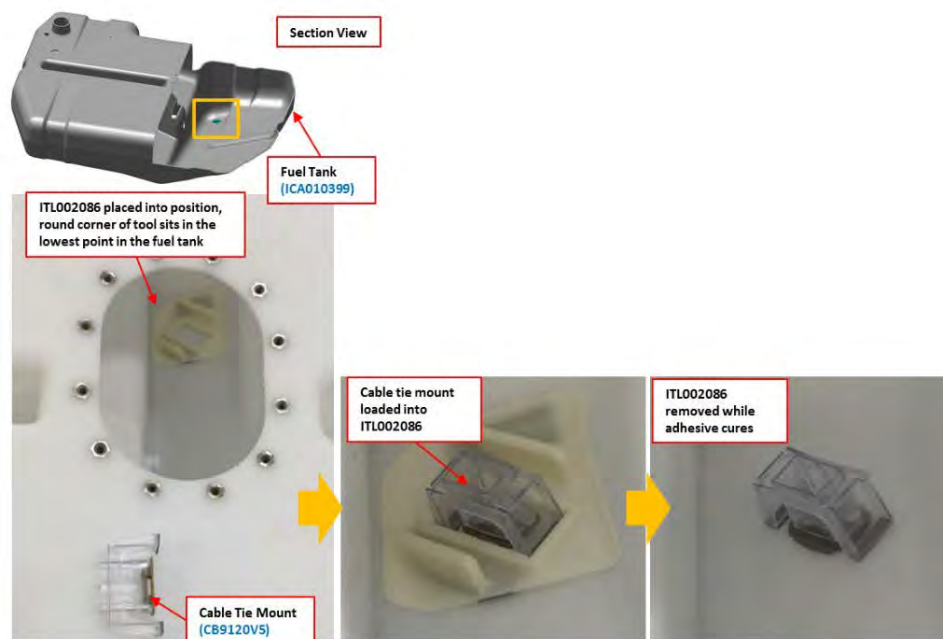

FIGURE 11-9
- a. Mark the location of the CABLE TIE ANCHOR MOUNT as shown in Figure 11-9 in a similar orientation as the ITL tool.